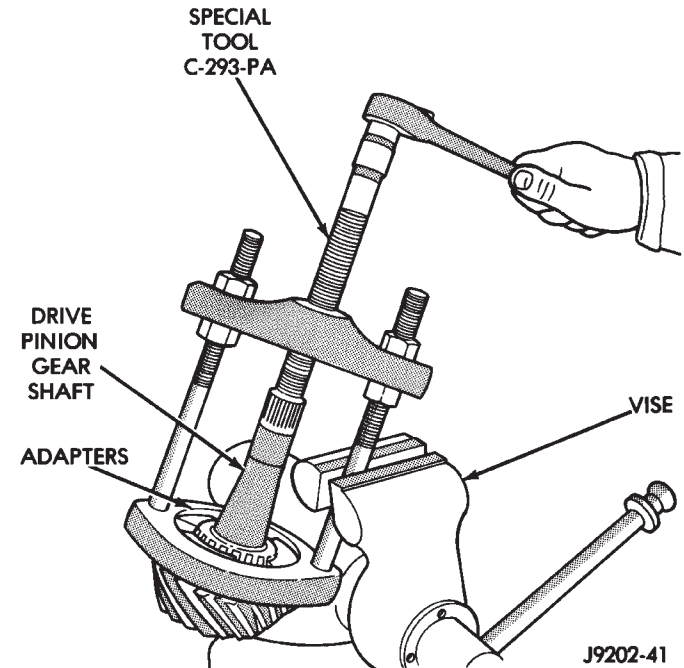

Fig. 32 Inner Bearing Removal
(10) Remove the rear pinion bearing from the pinion with Puller/Press C-293-PA and Adapters C-293-39 (Fig. 32).